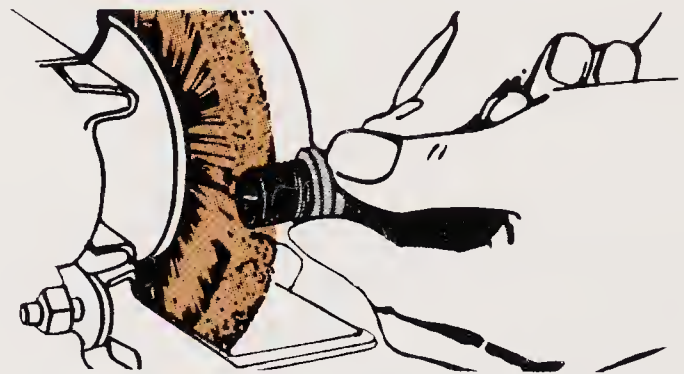

Figure 14-6. Threads can be cleaned with a power wire brush.
5. Clean spark plug threads with a hand or powered wire brush. See **Figure 14-6**. Take care not to damage the electrodes or insulator. If threads are nicked or damaged, discard the plug.